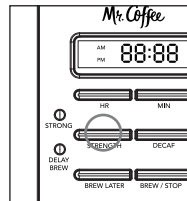

Figure 7
- To enjoy a more full flavored cup of coffee, press the Brew Strength button once. The STRONG Brew Strength amber light will turn on. The coffeemaker will remain in the Brew Strength you have selected until you change it back to REGULAR strength by pressing the Brew Strength button or until you unplug the machine (Figure 7).